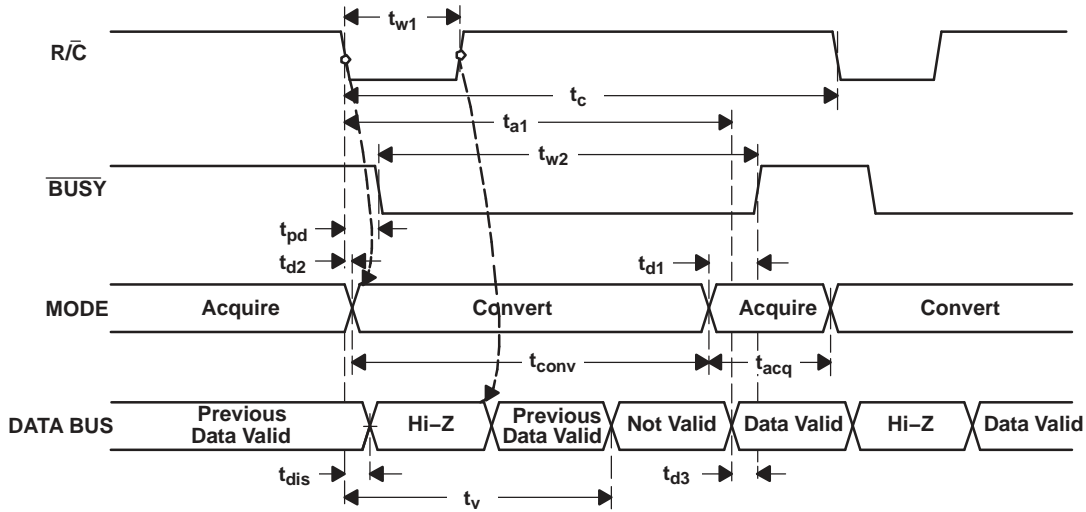
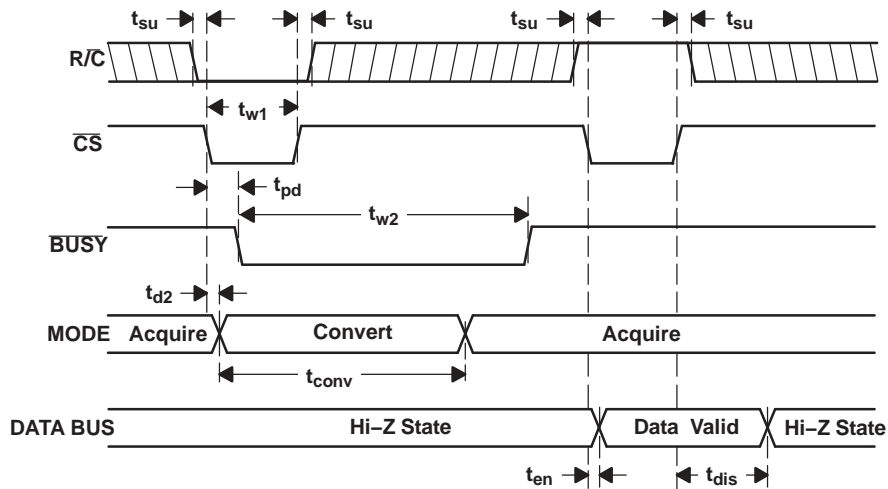
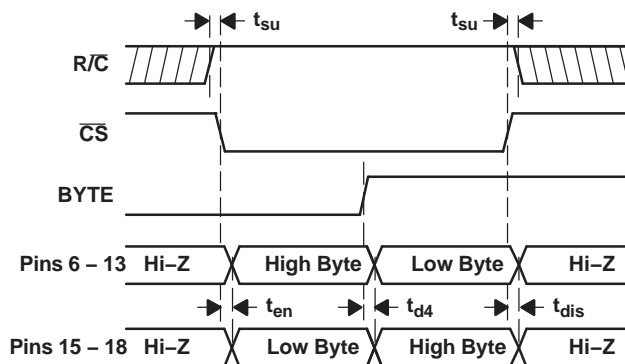

Figure 19. Conversion Timing with Outputs Enabled after Conversion (\overline{CS} Tied Low)
Figure 20. Using \overline{CS} to Control Conversion and Read Timing
Figure 21. Using \overline{CS} and \overline{BYTE} to Control Data Bus
The ADS8504 begins tracking the input signal at the end of the conversion. Allowing 4 μ s between convert commands assures accurate acquisition of a new signal. Refer to Table 1 for a summary of \overline{CS} , R/\overline{C} , and \overline{BUSY} states and Figure 19, Figure 20, and Figure 21 for the timing diagrams.
(1) See Figure 19 and Figure 20 for constraints on data valid from conversion $n-1$.
After conversion n is completed and the output registers have been updated, $\overline{\text{BUSY}}$ (pin 26) goes high. Valid data from conversion n is available on D11-D0 (pins 6-13 and 15-18). $\overline{\text{BUSY}}$ going high can be used to latch the data. Refer to Table 3 and Figure 19, Figure 20, and Figure 21 for timing specifications.
After conversion n has been initiated, valid data from conversion $n-1$ can be read and is valid up to t_2 (2.2 μs typ) after the start of conversion n . Do not attempt to read data from t_2 (2.2 μs typ) after the start of conversion n until $\overline{\text{BUSY}}$ (pin 26) goes high; this may result in reading invalid data. Refer to Table 3 and Figure 19, Figure 20, and Figure 21 for timing specifications.
The number of control lines can be reduced by tying $\overline{\text{CS}}$ low while using the falling edge of $\text{R}/\overline{\text{C}}$ to initiate conversions and the rising edge of $\text{R}/\overline{\text{C}}$ to activate the output mode of the converter. See Figure 19.